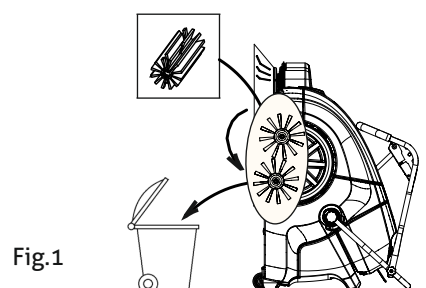

Fig.1
- Operate with the sweeper on level and smooth ground that is recognisably covered with dust, sand or chalk. (Fig. 1)